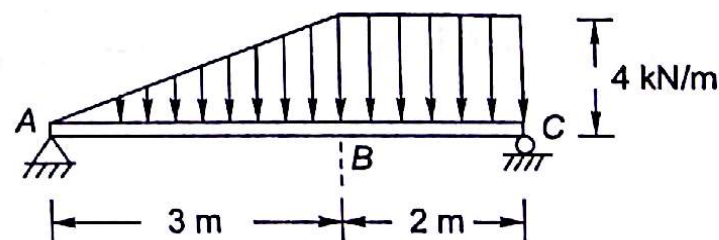

Fig. 2.25
- 2.5 A beam ABC, 5 m long carries distributed load as shown in Fig. 2.25. Maximum rate of loading is 4 kN/m at end C. There is linear variation of intensity of loading from A to B. Determine simplest resultant of forces and line of action of simplest resultant from end A.